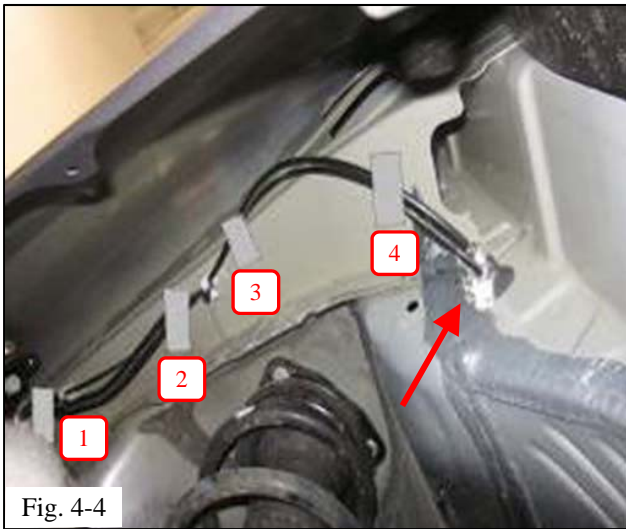

Fig. 4-3
- (d) Route the wiring along the battery over to the driver's side fender. Start securing the wire harness with cable ties following the same path as the hood release cable (arrows, Fig. 4-3).